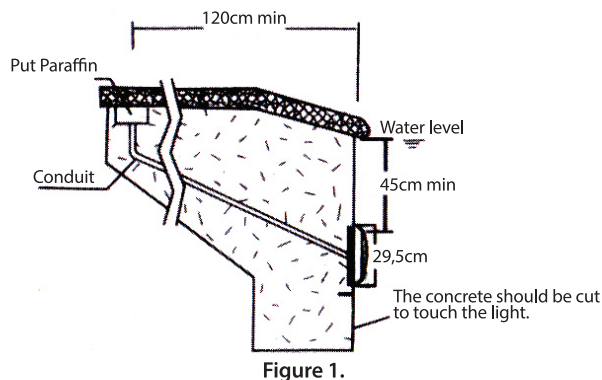

Figure 1.
- a) The junction box, or the low voltage transformer for 12 volt models, will be located at least 120cm from the edge of the pool, see figure 1.
- b) The mounting bracket must be properly installed so that the top edge of the underwater light's lens is at least 45 cm below the surface of the water in the pool, see figure1.
1. Locate position on a vertical wall where the light is to be installed. The top of the light lens must be 45cm below normal water level, see figure1.